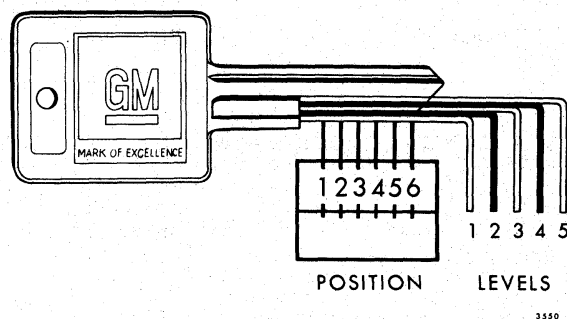

Fig. 1-3-Key Code Diagram
After code number has been recorded by owner, plugs should be knocked out of key head. From these numbers, lock combination can be determined by use of a code list (available to owners of key cutting equipment from equipment suppliers). If key code numbers are not available from records or from the "knock-out" plug, lock combination (tumbler numbers and position arrangement) can be determined by laying key on diagram in Figure 1-3.
from code list or Key Code Diagram (Fig. 1-3), cut blank key to the proper level for each of six tumbler positions, and check key in lock cylinder. The new key should agree with combination opposite code number in code list.
- a. Lay key on Key Code Diagram (Fig. 1-3) with key outlined by diagram as accurately as possible.
- a. Lay key on Key Code Diagram (Fig. 1-3)